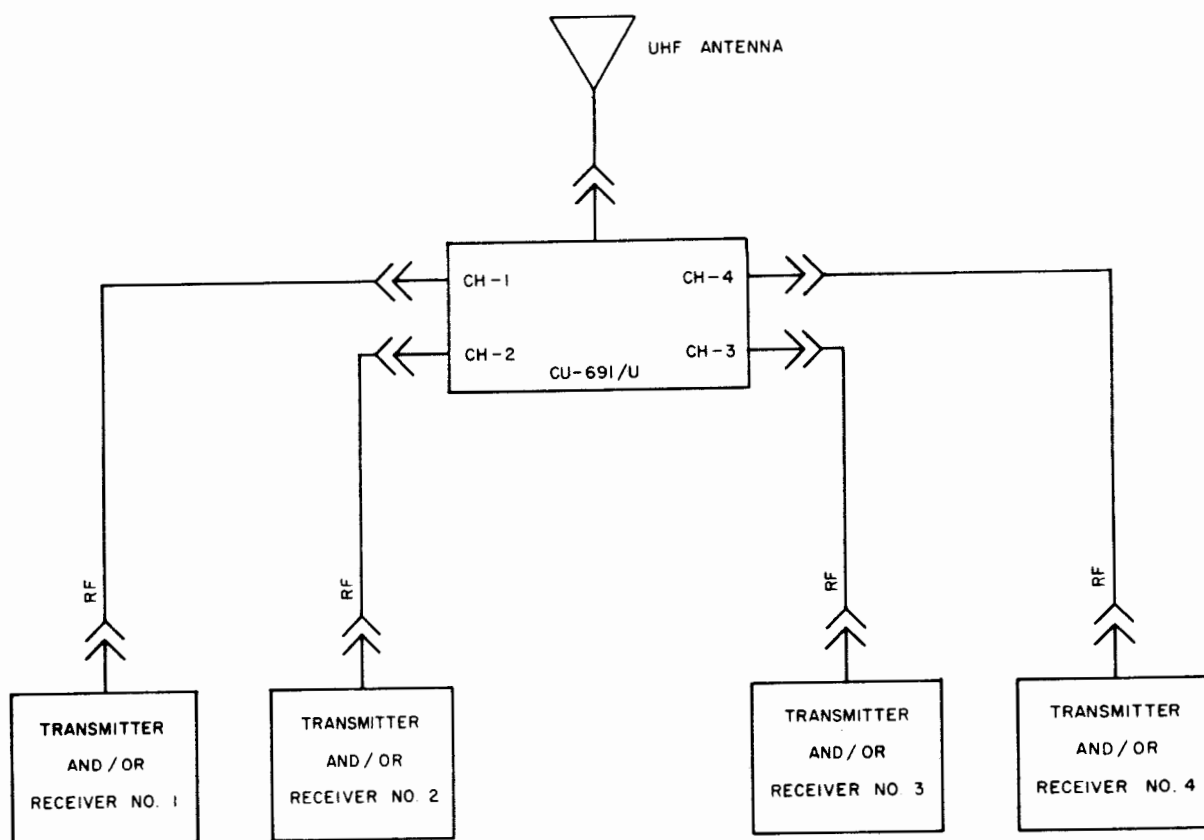

Figure 2-5 Antenna Coupler CU-691/U Interconnection Diagram
- c. INTERCONNECTION CABLING DIAGRAM. - See Figure 2-5.